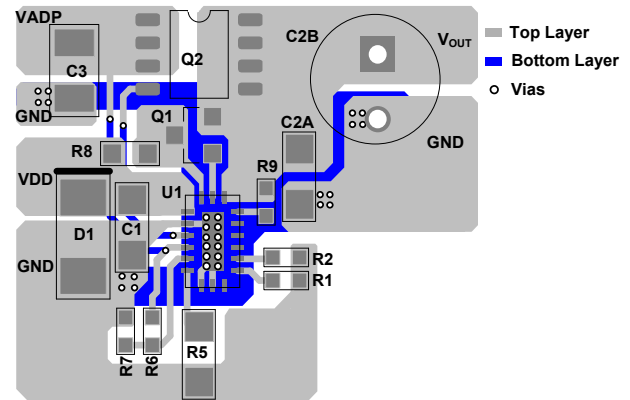

Figure 7: Recommended PCB Layout ⁽⁸⁾
Efficient PCB layout is critical. Poor layout may result in reduced performance, resistive loss, and system instability. To ensure an optimal layout design, refer to Figure 7 and follow the guidelines below:
- 8) Figure 7 is based on the Typical Application Circuit (see Figure 8 on page 24).